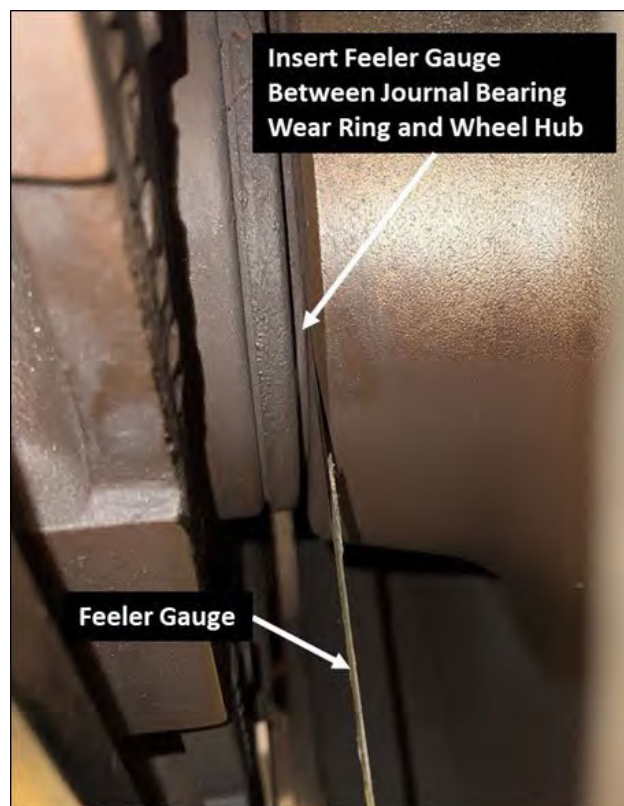

Figure 5. Measure Journal Bearing Gap
9.5.1 Using a 0.005" feeler gauge, check the gap between the journal bearing seal wear ring and the wheel hub (See Figure 5). Check multiple locations around the wheel hub. If the feeler gauge cannot be inserted, record the measurement as "0.000"
- 9.7.1 Using a 0.005" feeler gauge, check the gap between the journal bearing seal wear ring and the wheel hub (See Figure 5). Check multiple locations around the wheel hub. If the feeler gauge cannot be inserted, record the measurement as "0.000"